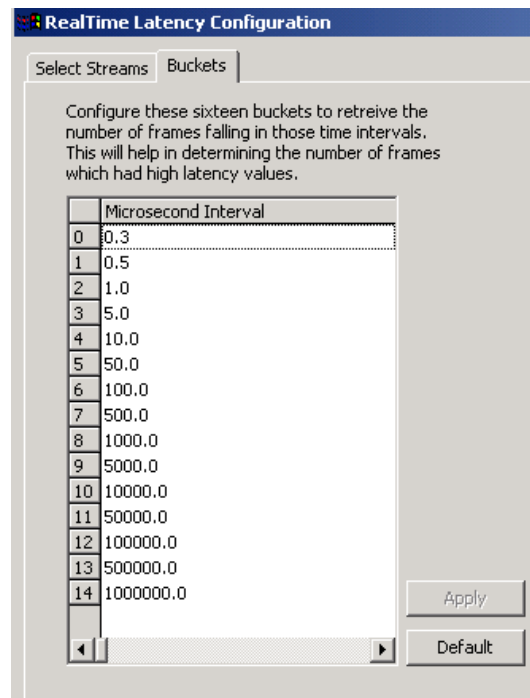

Figure 7-31. RealTime Latency Buckets tab
- 4 Select the **Buckets** tab after configuring the receive ports to review the size of the buckets used to capture the latency counts. (See *Figure 7-31*.)